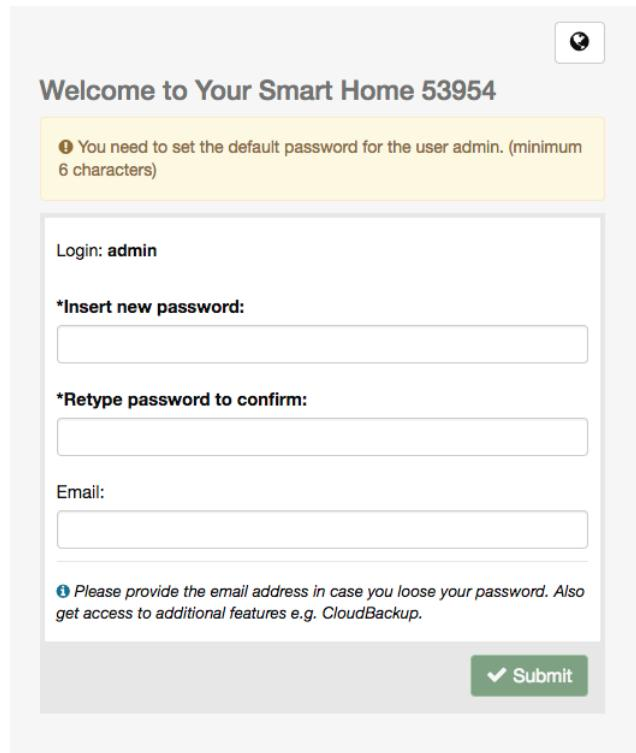

Figure 3.8: Initial setup of the Z-Way™ User Interface
Both the local access and the remote access using the find-service have their pros and cons as listed in Table 3.1: The initial access to the user interface must be done using one of the local access routes. Once **Z-Way™** is running, the first access to the interface asks for some basic setup such as the admin password and an email address to recover this password. Figure 3.8 shows this screen. The number provided in the title (1) is the unique **Z-Way Platform ID** of the device and it will be needed in the future to access the controller remotely using the find service.